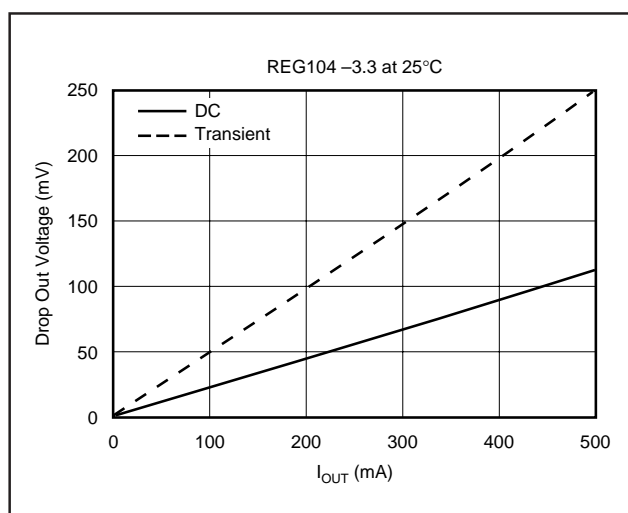

FIGURE 8. Transient and DC Dropout.
The REG104 uses an N-channel DMOS as the *pass* element. When the input voltage is within a few hundred millivolts of the output voltage, the DMOS device behaves like a resistor. Therefore, for low values of  $V_{IN}$  to  $V_{OUT}$ , the regulator's input-to-output resistance is the  $R_{DS(on)}$  of the DMOS pass element (typically 230mΩ). For static (DC) loads, the REG104 will typically maintain regulation down to  $V_{IN}$  to  $V_{OUT}$  voltage drop of 230mV at full rated output current. In Figure 8, the bottom line (DC dropout) shows the minimum  $V_{IN}$  to  $V_{OUT}$  voltage drop required to prevent dropout under DC load conditions.
For large step changes in load current, the REG104 requires a larger voltage drop across it to avoid degraded transient response. The boundary of this *transient dropout* region is shown as the top line in Figure 8. Values of  $V_{IN}$  to  $V_{OUT}$  voltage drop above this line insure normal transient response.